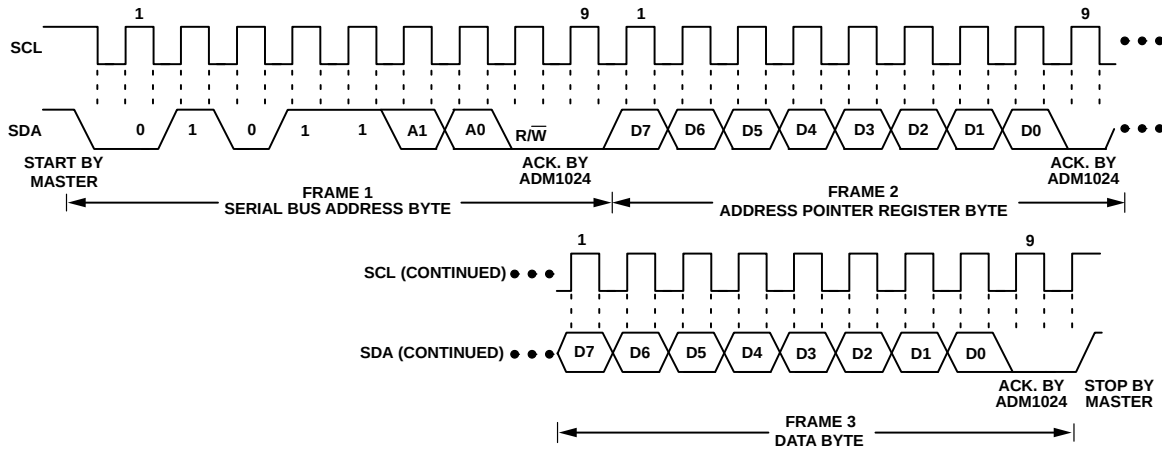
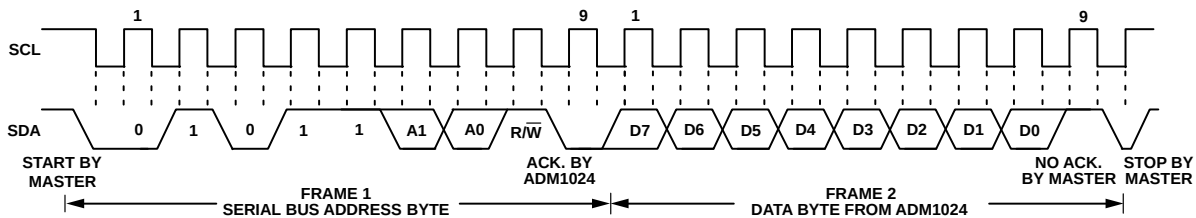

Figure 10. Writing a Register Address to the Address Pointer Register, then Writing Data to the Selected Register
Figure 12. Reading Data from a Previously Selected Register
To write data to one of the device data registers or read data from it, the Address Pointer Register must be set so that the correct data register is addressed, then data can be written into that register or read from it. The first byte of a write operation always contains an address that is stored in the Address Pointer Register. If data is to be written to the device, the write operation contains a second data byte that is written to the register selected by the Address Pointer Register. This is illustrated in Figure 10 The device address is sent over the bus followed by $R/\overline{W}$ set to 0. This is followed by two data bytes. The first data byte is the address of the internal data register to be written to, which is stored in the Address Pointer Register. The second data byte is the data to be written to the internal data register.
the serial bus address, $R/\overline{W}$ bit set to 1, followed by the data byte read from the data register. This is shown in Figure 12.
2. In Figure 10 to Figure 12, the serial bus address is shown as the default value 01011(A1)(A0), where A1 and A0 are set by the three-state ADD pin.